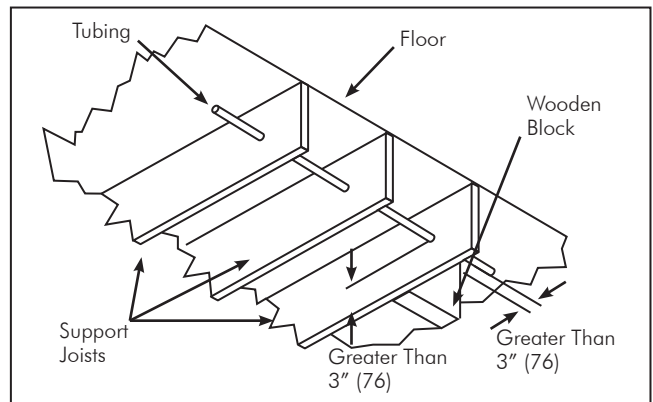

FIG. 4-16 No Shielding Required for Tubing Running Through Joists Greater than 3" from a Potential Nailing Surface
- a. Where the tubing is supported more than 3" (76) from any outside edge of a stud, joist, plate, etc. or wall surface (see FIG 4-16)
- b. Where any non-restrained tubing can be displaced from the direction of potential penetration at least 3" (76)